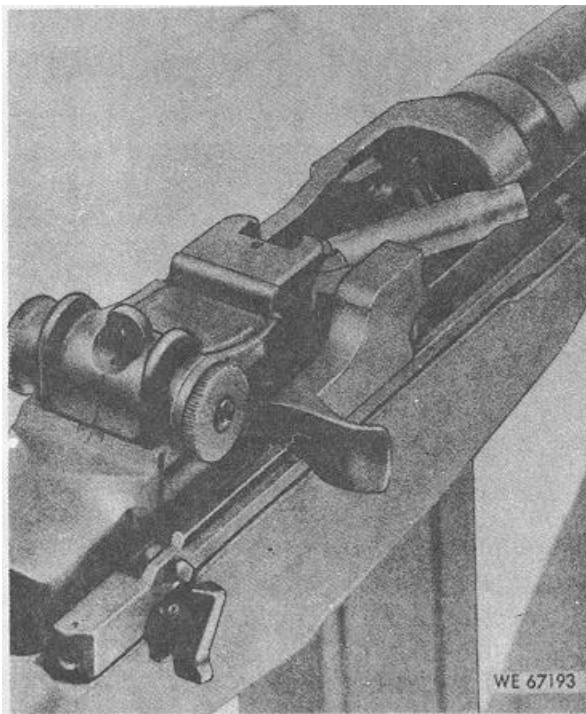

Figure 2-10. Ejecting cartridge case from chamber.
(7) *Ejecting.* Ejecting is throwing the empty cartridge case out of and away from the receiver (fig. 2-10). As soon as the bolt has withdrawn the cartridge case clear of the chamber, the force of the ejector spring and plunger pushes the cartridge case head away from the bolt face. This causes the forward end of the cartridge case to move upwards and to the right. The rapid rearward movement of the bolt causes the cartridge case to strike the angle on the lower right
(8) *Cocking*. Cocking occurs when the hammer is forced into position for firing the next cartridge. This happens as the bolt travels toward the rear. The rear end of the bolt forces the hammer back and rides over it. The hammer is caught by the sear, if the trigger is still held to the rear, and by the trigger lugs if the trigger has been released (fig. 2-10).